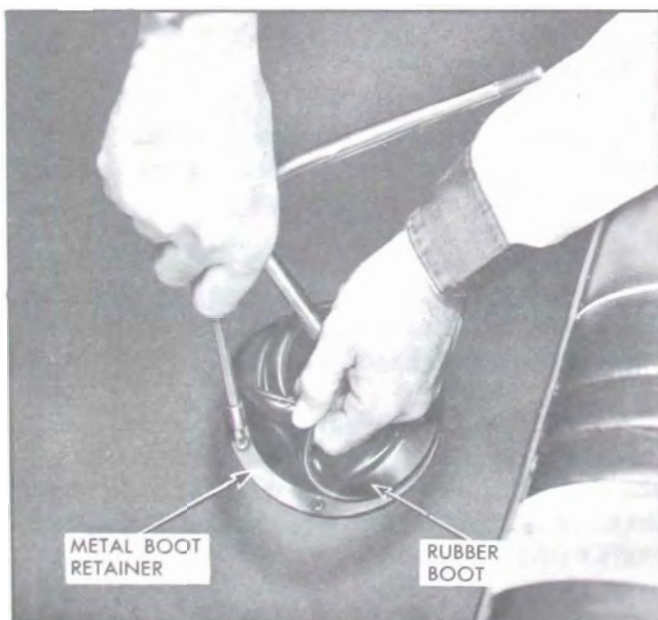

Figure 4-45—Removing Rubber Boot and Retainer
2. Remove six metal boot retainer to floor plate attaching screws (see fig. 4-45), and slide boot over stick shift.